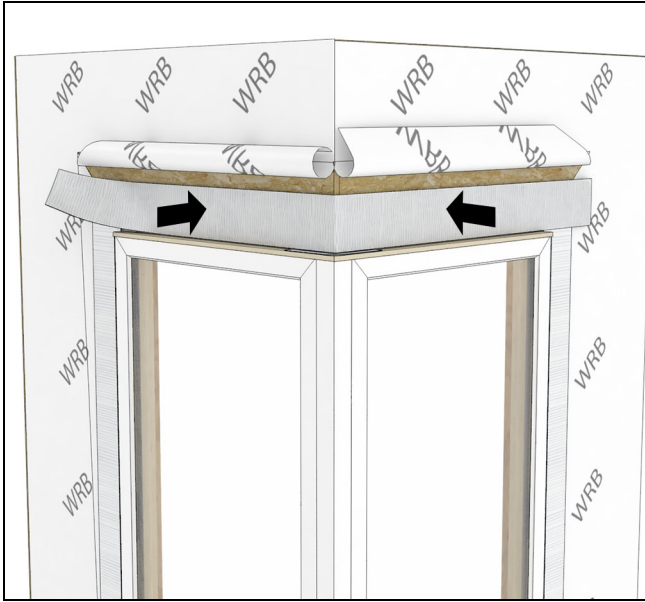

Figure 63
6. Install another layer of adhesive membrane lapping onto the head jamb of unit. Membrane flashing should extend and cover the flashing previously installed at the jambs. See Figure 63.